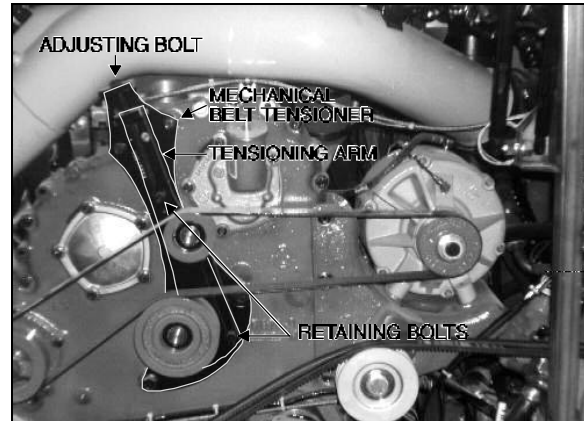

FIGURE 29: ALTERNATOR DRIVE BELT
1. Loosen the two bolts retaining the tensioning arm (Fig. 29).